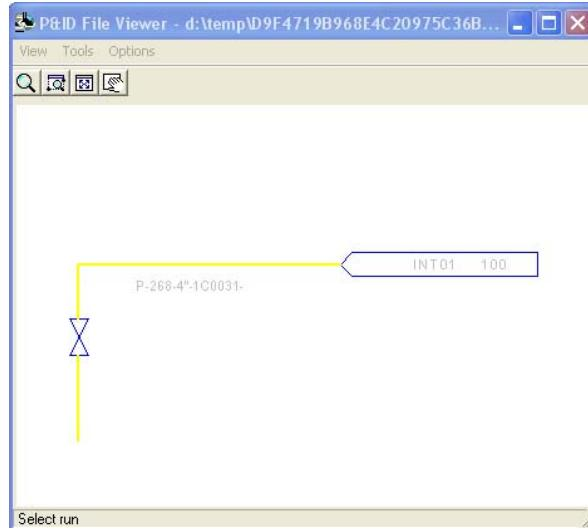

Figure 32: P-268 Pipeline in the P&ID INT02 Drawing
24. The **P&ID File Viewer** window appears. In the **P&ID File Viewer**, click the **P-268** pipeline, as shown in Figure 32.